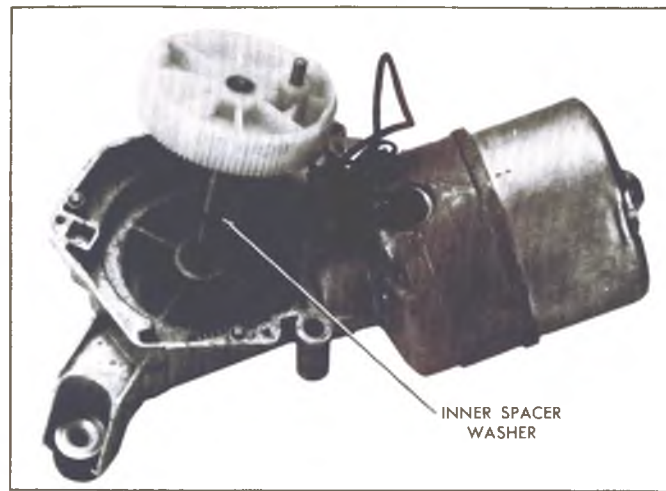

Fig. 28--Drive Gear Removal
5. Slide the gear assembly out of the housing and remove the inner spacer washer (fig. 28).